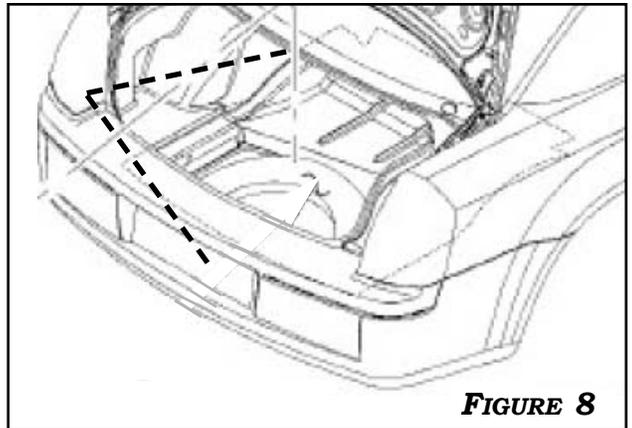

FIGURE 8
1. SEE THE CAMERA EXTENSION HARNESS AND CAMERA ASSEMBLY HARNESS ROUTING IN **FIGURE 8**. LOCATE THE LICENSE PLATE ACCESS HOLE AND LEFT SIDE GROMMET BEHIND CARPET. USE THE EXISTING WIRING WITH WIRE CLIPS TO SECURE HARNESSES.